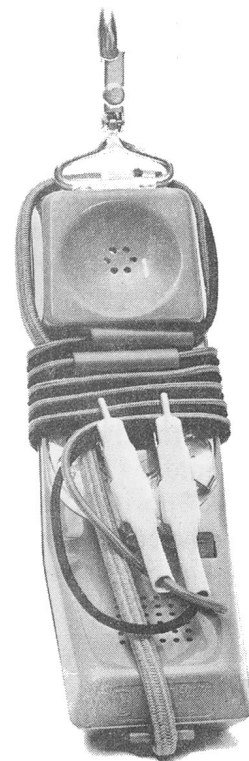

Fig. 7 — Method of Wrapping Cord When Handset is Not in Use
- 2.10 When the handset is not in use, the cord should be wrapped as shown in Fig. 7.